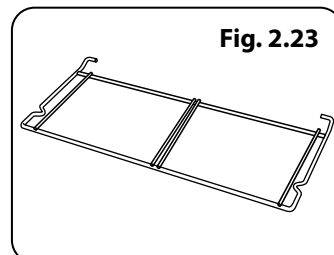

Fig. 2.23
- Grill pan tray support (**Fig. 2.23**)